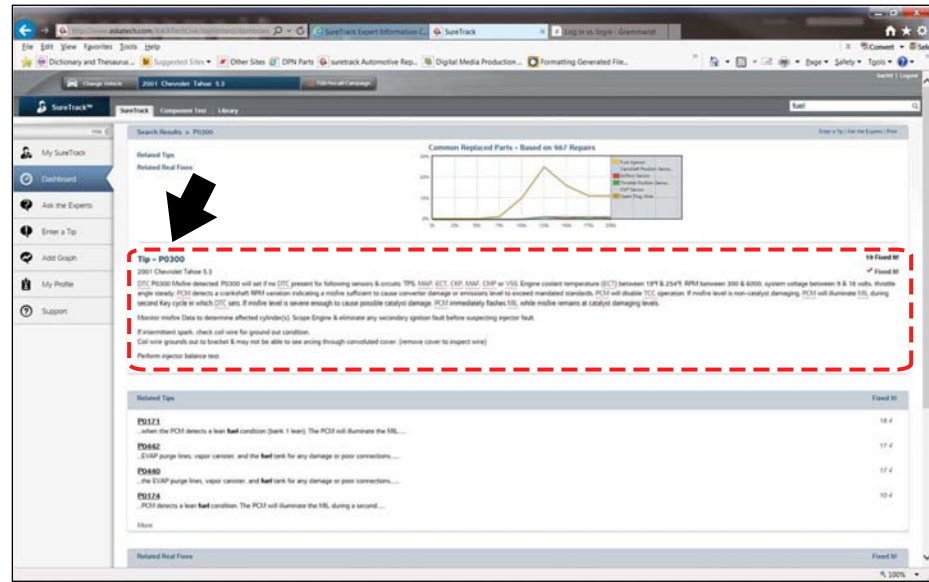

Figure 15-16 SureTrack Tip
- **Tips**—presents a list of Tips that directly correlate to your search criteria. Select a tip from the list to open and review the complete Tip (Figure 15-16). For additional information, see “About SureTrack Tips” on page 160.
SureTrack Tips are concise and complete descriptions of a real fix for a particular vehicle repair issue. A SureTrack Tip is a combination of proven fixes and vehicle specific data we have collected and analyzed into an all-in-one information source to help you fix vehicle problems quickly and easily (Figure 15-16).